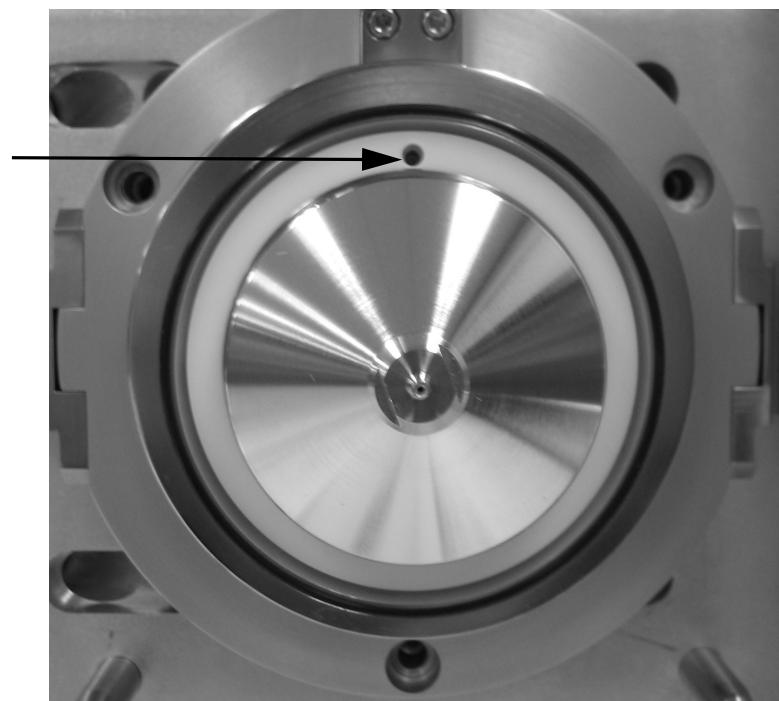
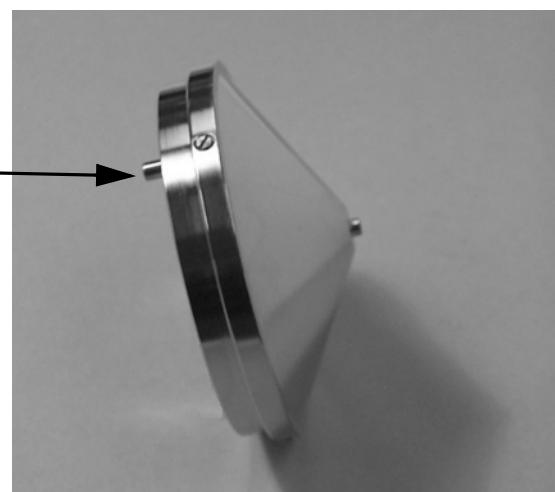

Figure 73. Ion source interface, showing the sweep gas supply port in the API cone seal
Figure 74. Ion sweep cone, showing the gas inlet
1. Align the gas inlet on the ion sweep cone with the sweep gas supply port on the ion source mount. Firmly press the ion sweep cone into ion source mount, as Figure 73 and Figure 74 show.